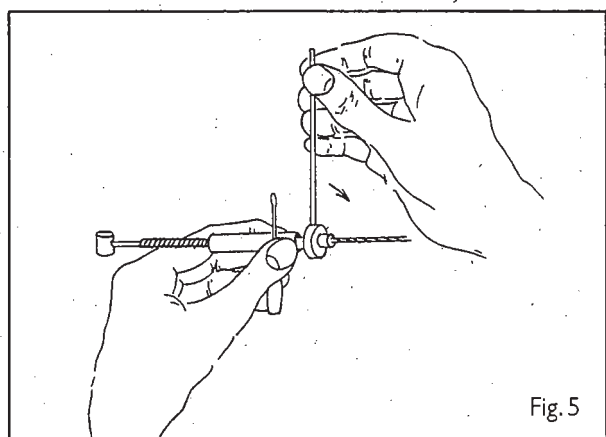

Fig. 5
1. Thread the cable through the retaining nut and the gripping device until it is flush with the end of the gripping device. (Ensure that the gripping device is in the correct position.) Remove the tension lock and the tightening screw from the wall fixture and insert the gripping device with the cable in the tension lock. Screw the retaining nut by hand as far as possible onto the tension lock. Arrest the tension lock with the screwdriver and tighten the retaining nut with the steel pin. The gripping device will now clamp firmly shut around the cable (Fig. 5).